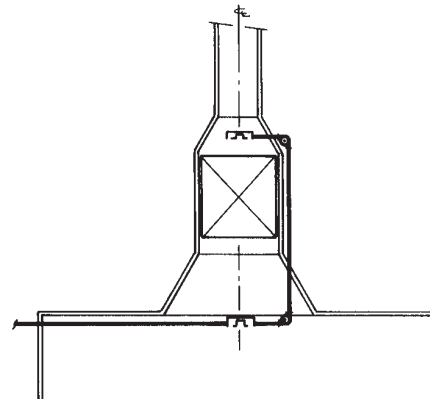

FIGURE 99
- If an electrostatic precipitator is located at or near the base of the exhaust duct, it is necessary to locate a detector below the precipitator, at the base of the duct, and also locate one in the duct, just above the precipitator. See Figure 99.